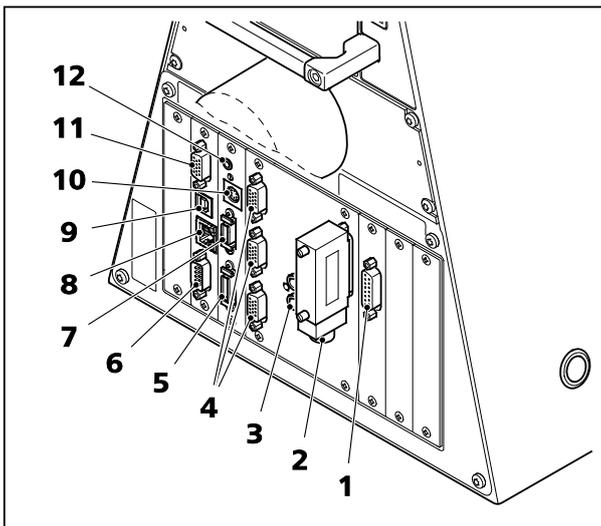

Fig. 10 Axio Observer 7 materials (rear)
- Plug connecting plug of power supply VP232-2 into the corresponding connector (Fig. 10/1) on the rear side of the stand.
##### Key to figure 10: